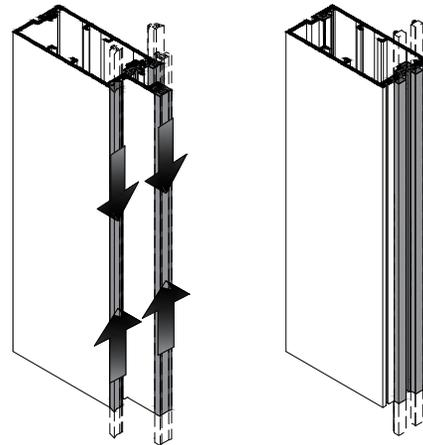

Fig. 45.2
- B. Install P4606 gasket into vertical mullions. See Fig. 45.2 and 45.1. Vertical mullion gaskets run beyond the horizontals. The vertical gasket will run through a traditional splice joint (refer to Fig. 41.3) and is set in fresh sealant at the splice.